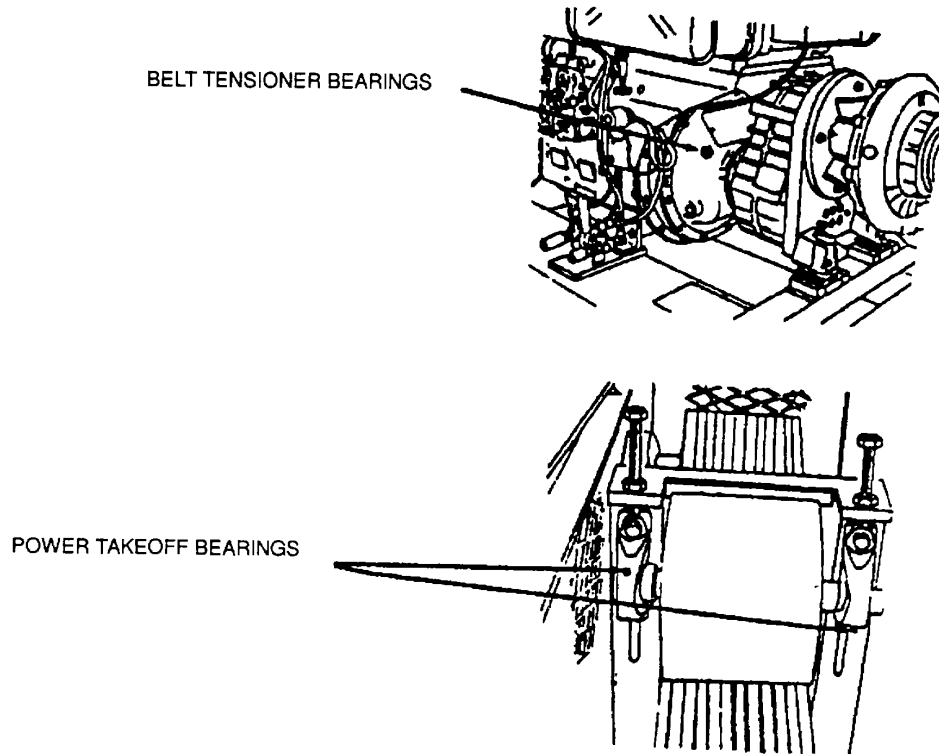

Figure 4-13. HP Pump Grease Fittings
- a. Clean grease from belt tensioner bearings grease fittings (Figure 4-13) with a clean, lint-free cloth.